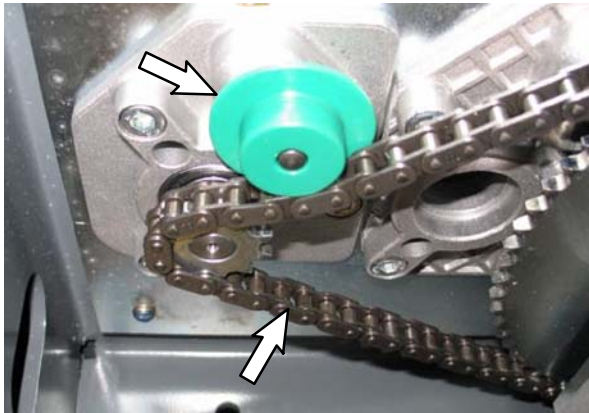
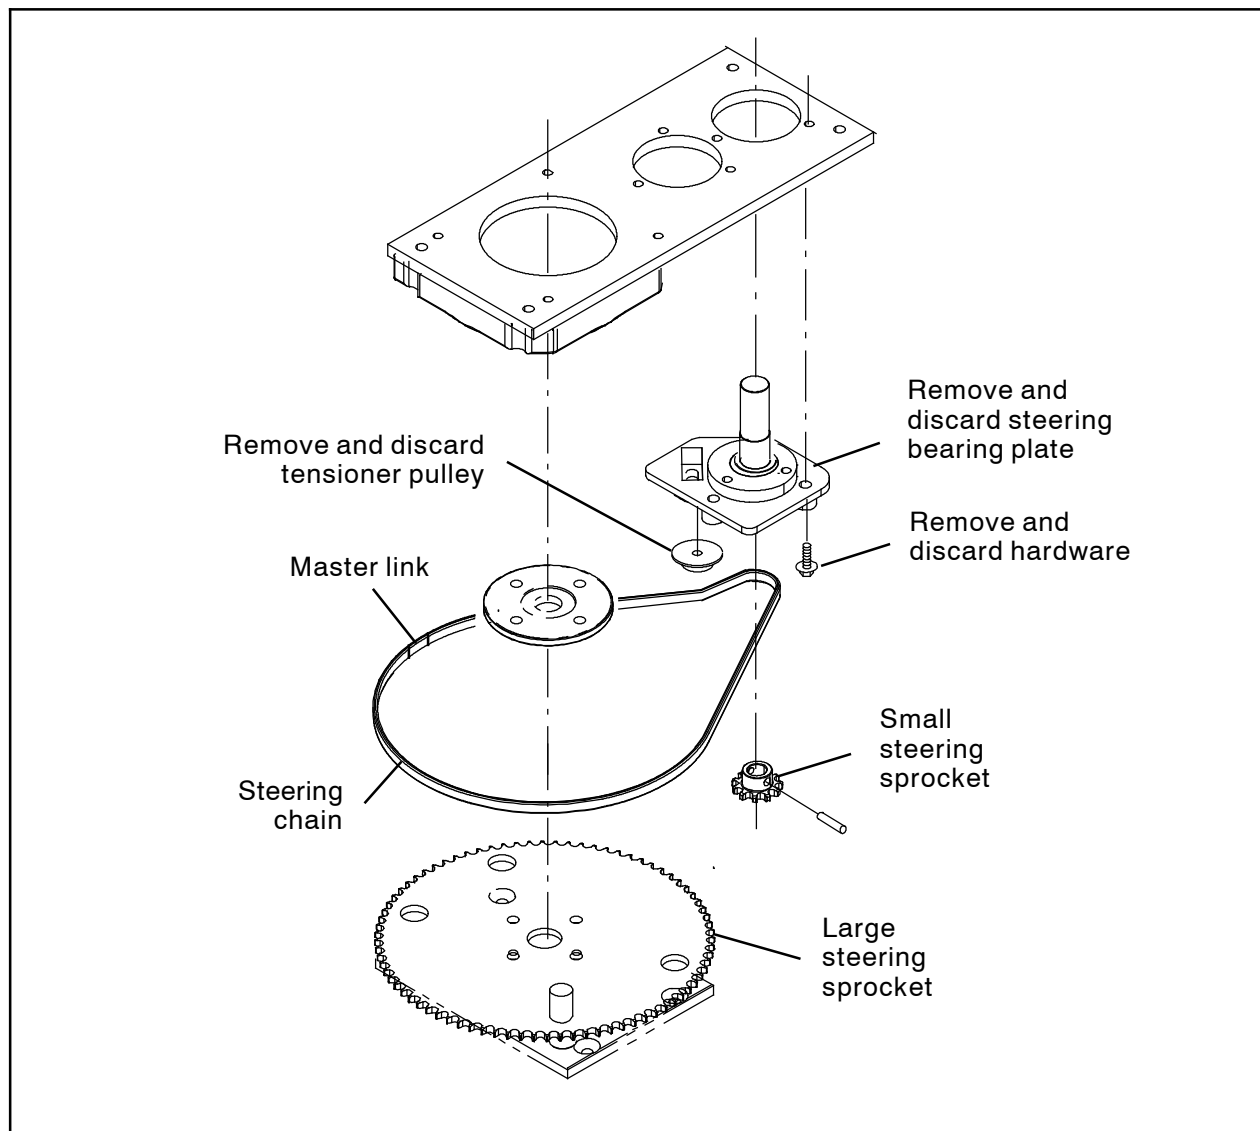
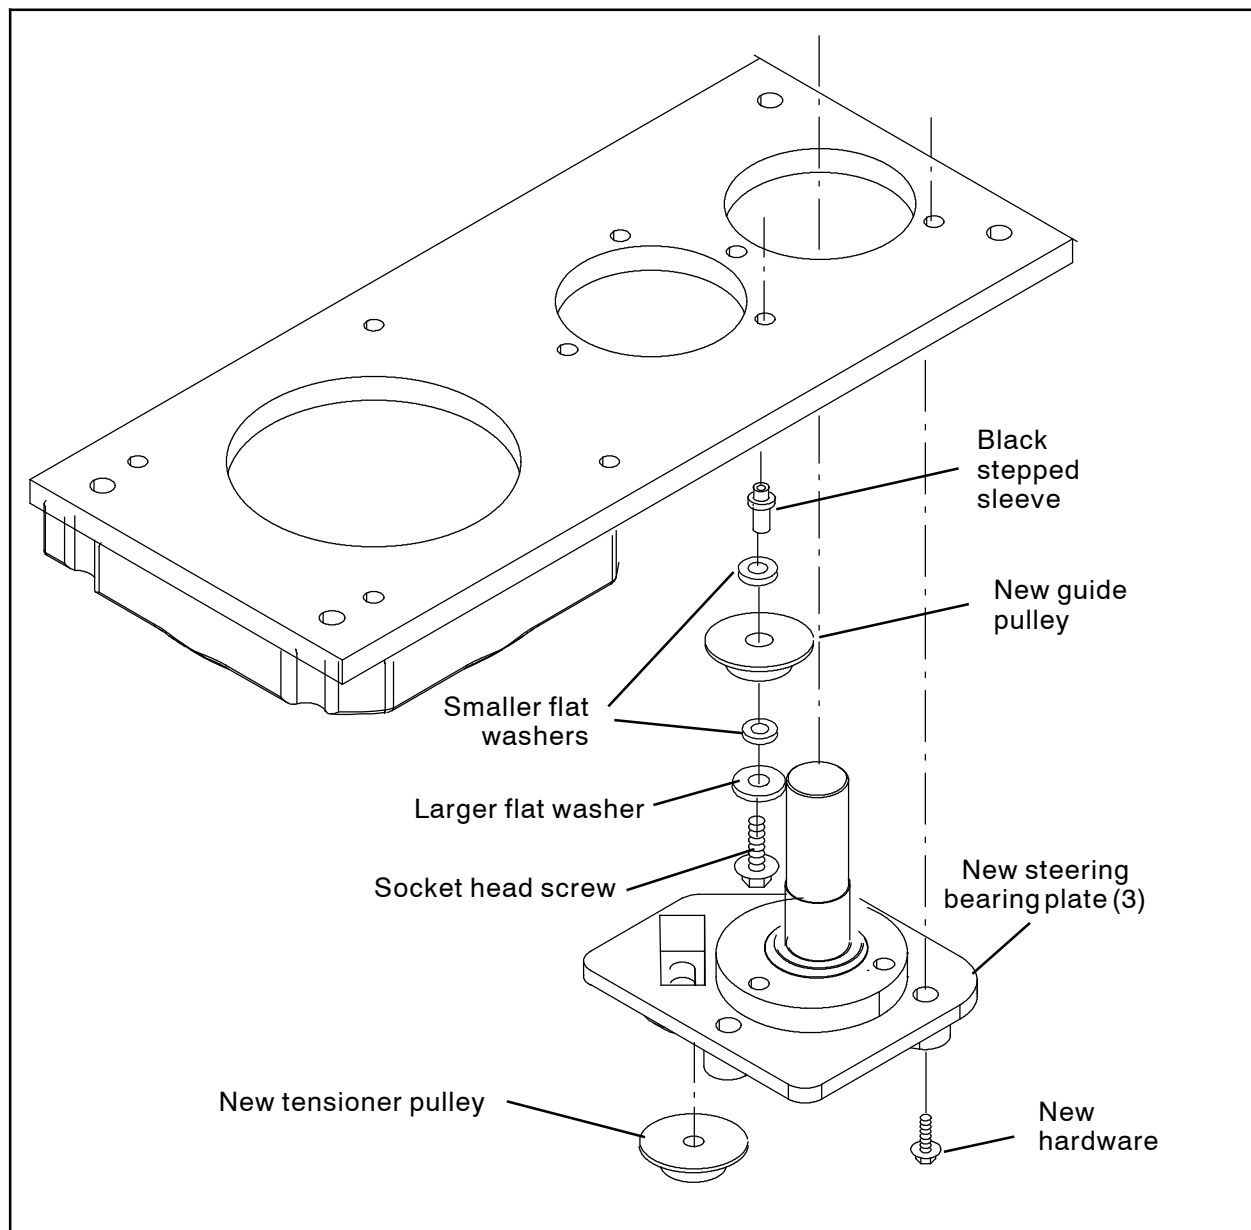
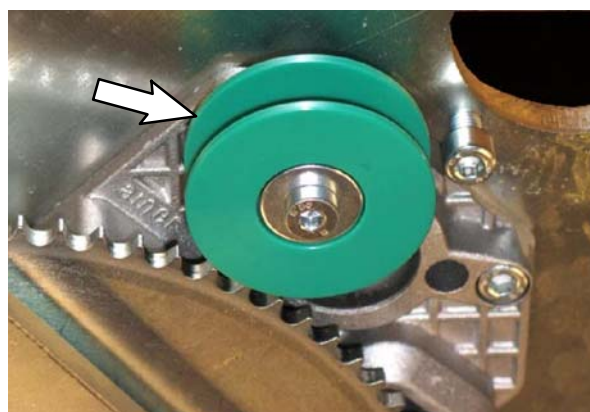

FIG. 17
FIG. 18
FIG. 19
FIG. 20
19. Remove the chain from the steering sprockets. The tensioner pulley will fall from the steering mechanism when the steering chain is removed. Discard the tensioner pulley. (Fig. 17 / Fig. 18)
20. Remove the steering bearing plate from the machine. Discard the steering bearing plate and hardware. (Fig. 18)
21. Use the socket head screw, larger flat washer, two smaller flat washers, and the black plastic sleeve included with the new steering bearing plate (3) to install the new guide pulley onto the machine. Tighten the hardware to 18.5-24 Nm / 13.6-17.7 ft lbs. (Fig. 19 / Fig. 20)
23. Hold the new tensioner pulley onto the steering bearing plate (3) and reinstall the steering chain. (Fig. 17 / Fig. 18 / Fig. 19)